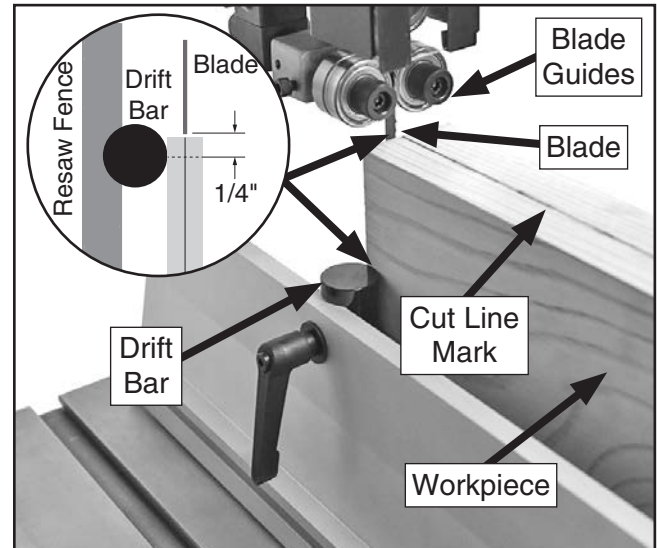

Figure 85. Workpiece positioned to cut using resaw fence with drift bar.
4. Mark reference cut line along top of workpiece (see **Figure 85**).
5. Lower bandsaw blade guides as close to workpiece as possible (see **Figure 85**).
6. Adjust resaw fence so blade aligns with mark made in **Step 4** and center of drift bar is set $\frac{1}{4}$ " forward of blade teeth (see **Figure 85**).